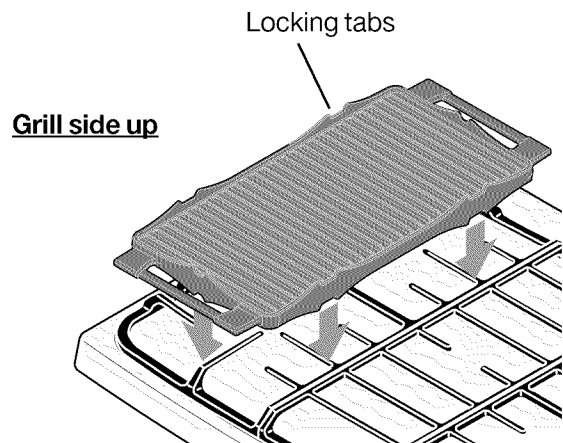

Fig. 1
- Place either side of the griddle centered over the left or right side of gas burner grates. Be sure locking tabs fit properly on top of grates -*Fig. 1*.